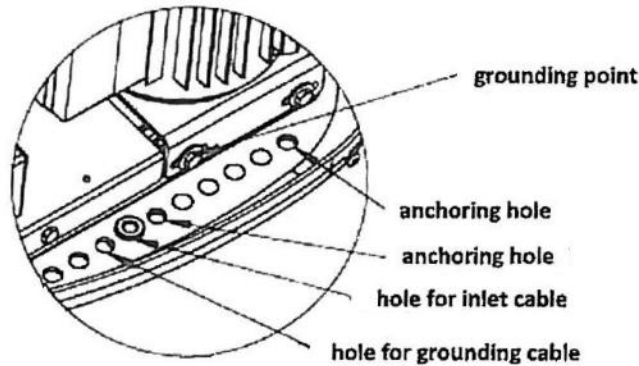

Fig. 3
- The unit should be anchored to the foundation plate by means of M8-160 bolts (Fig. 3) using a chemical anchor system (i.e. two-component resin mortar designed for fixing mechanical parts to a mineral base). The bolts should be set in the concrete foundation plate to the depth of 138mm. The counter-flow unit should be fixed to the plate using Ø8.2mm washers and M8 locknuts. Neither the bolts, nor other anchoring material comprise a part of the delivery.
- The inlet cable of  $3 \times 1.5 \text{ mm}^2$  size should be passed through a grommet installed in the lower cover, as shown in Fig. 3. In the box the cable shall be locked in position by a clamp provided. The cable should be led to the counter-flow unit in a cable protector.